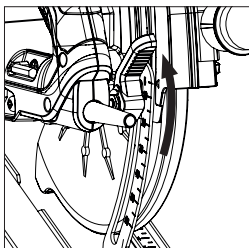

Fig. 10
- Loosen the Depth Adjustment Locking Mechanism by pulling the operating lever upwards. (**Fig. 10**) (CCSL shown. All other models are similar).